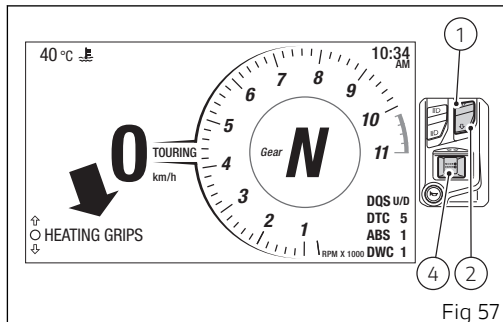

Fig 57
Press button (1) and (2) to select the HEATING GRIPS function inside the function menu (Fig 57).